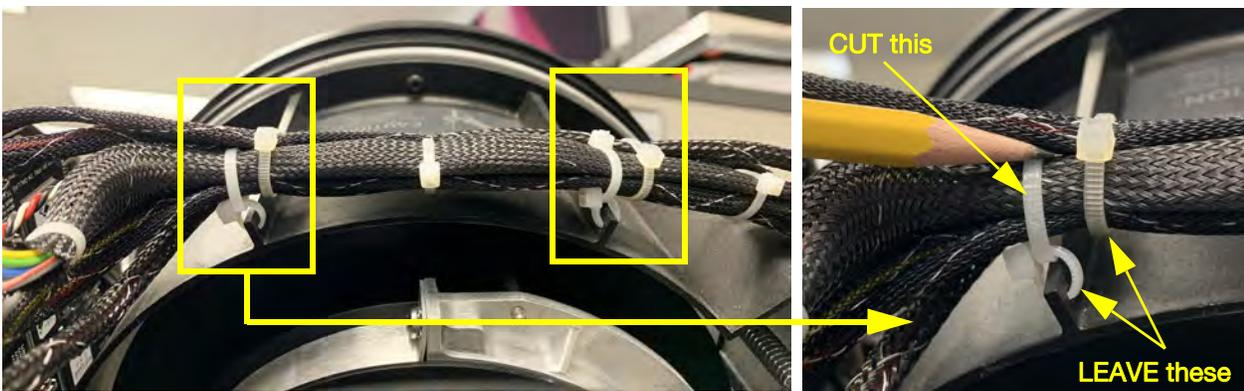

Figure 3-37: Freeing Cable Bundles from Group 3 Light Shield
- You can remove one side and allow the Light Shield to remain connected as long as you support any stress on the cables attached. See **Figure 3-37** below.
When cutting either cable bundle loose from the Light Shield, do not cut the wire tie attached directly to the Light Shield, cut the tie that is secured to that tie, you will need it upon reinstallation. Don't cut the bundle apart, either. See **Figure 3-37** below.